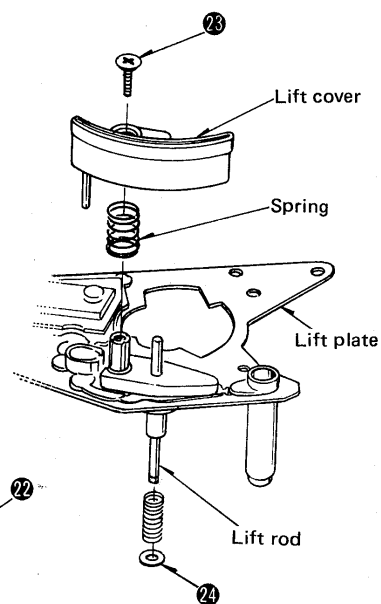

Fig. 11
3. Remove the setscrew [ Fig. 11: 23 ] of the arm lift cover.
4. Remove the washer [ Fig. 11: 24 ] from the arm lift rod.